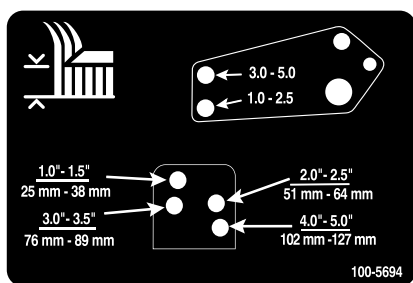

Figure 31
10. Align the damper-link holes with the selected height-of-cut bracket holes in the mower-deck frame, insert the clevis pins, and install the hairpin cotters (Figure 31).